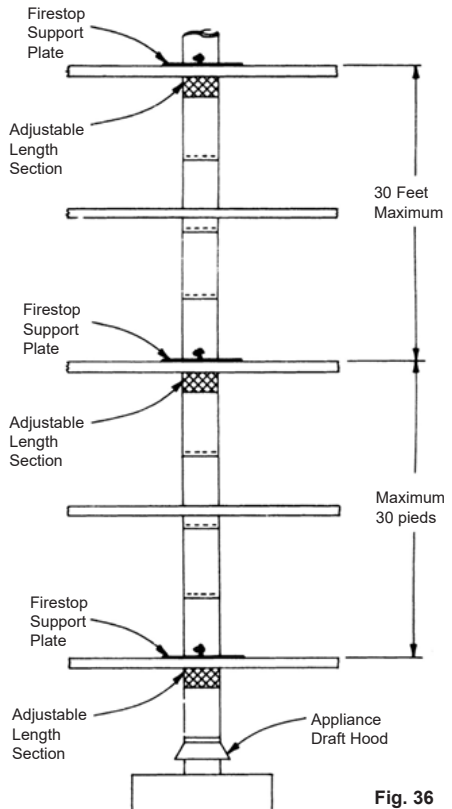

Fig. 36
4. Mounting holes are provided around the perimeter of the Firestop Support Plate. Use appropriate fasteners to secure the Support Plate halves to the opening between floors. (Firestop Support Plates should be attached to the TOP of the opening only). See Figure 36.
locations where a support is used (see Figure 36). This allows the location of the pipe recess to be in the proper position at each opening where a support is to be used. The Adjustable Length Section also provides relief for linear thermal expansion. The Adjustable Length Section should be positioned directly under the vent pipe section that is being supported.
Adjustable Length Section may also be used to compensate for linear thermal expansion between two fixed points in the vent system. Examples of this are shown in Figure 36. In these examples the fastening devices are not used. This allows for expansion between two fixed supports or between a fixed support and the appliance. Note that the fastening means should be left loose only if the Vent and the Adjustable Length Sections are installed vertically. If the Adjustable Length Sections are used in a position other than vertical, such as between offsets, the fastening means should be used. Finally, when joining an Adjustable Length Section to another section of Type B Gas Vent, make sure that there is a minimum overlap of two inches. **DO NOT USE Adjustable Lengths to suspend any weight of pipe below.**